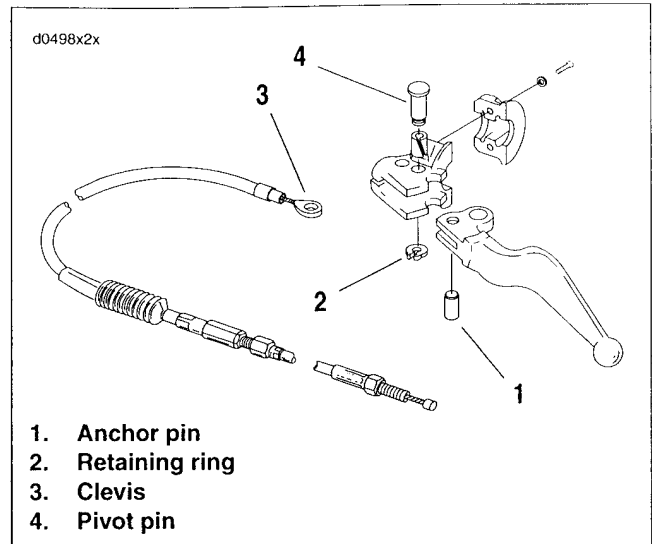

Figure 2-114. Clutch Cable Installation
2. See Figure 2-114. Remove the clutch cable anchor pin (1) from the hand lever. To remove anchor pin, it will be necessary to remove the retaining ring (2) and pivot pin (4).
7. See Figure 2-114. Insert anchor pin (1) through handle and clutch cable clevis end (3).
8. Place handle in bracket and install pivot pin (4) and retaining ring (2).